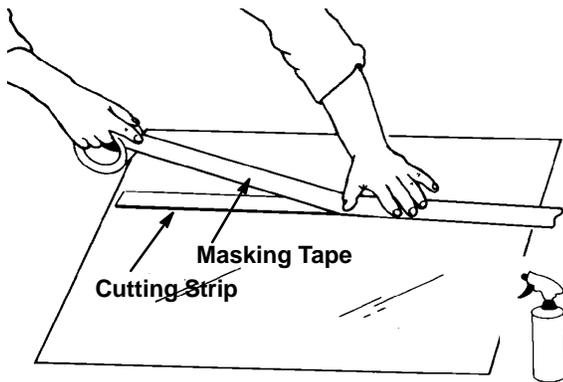

Figure 6. Taping Cutting Strip to Sign Surface
3. Tape the cutting strip to the sign surface with 2 inch (5.1 cm) masking tape 232. See Figure 6.